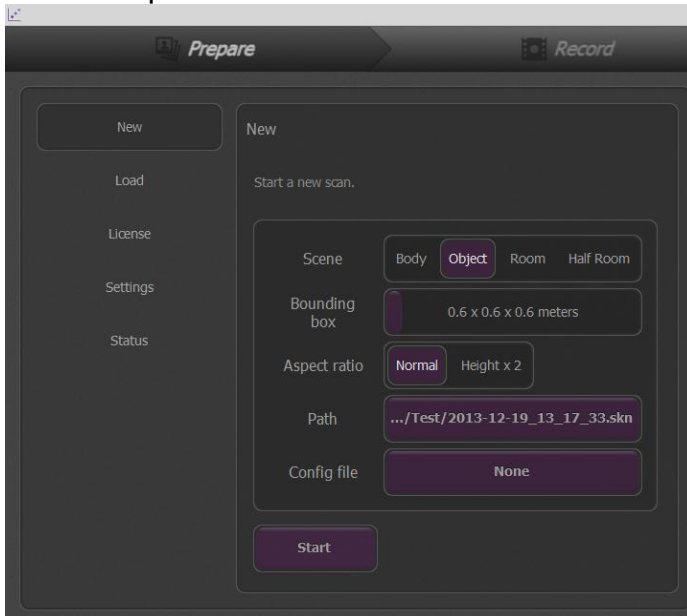

Figure 6: Bounding Preferences
4. **IDENTIFY** the object you wish to scan, click on the **NEW** tab and select the appropriate scene and bounding box (FIG. 6) based on the object type and physical size.